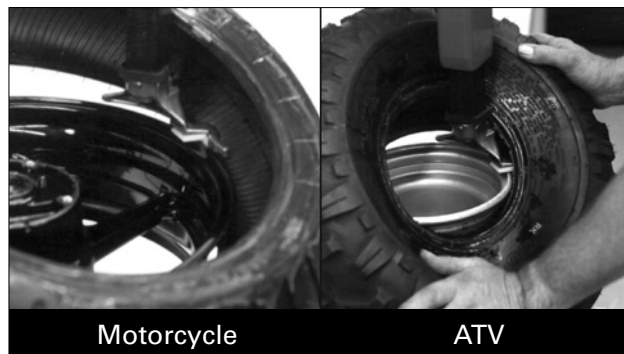

Figure 16 - Position Tire Against Mount/Demount Head
4. Place tire over wheel and move swing arm into position. Position the tire so that the lower bead is above the rear extension of the mount/demount head and below the front knob (figure 16).